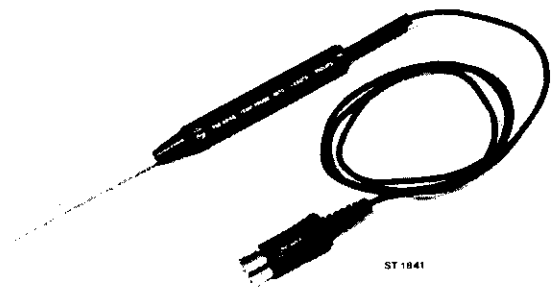

Fig. 2.
2.2. OPTIONAL ACCESSORIES**2.2.1. Temperature probe PM 9248 (Fig. 2)**
Accessory box containing (Fig. 2)